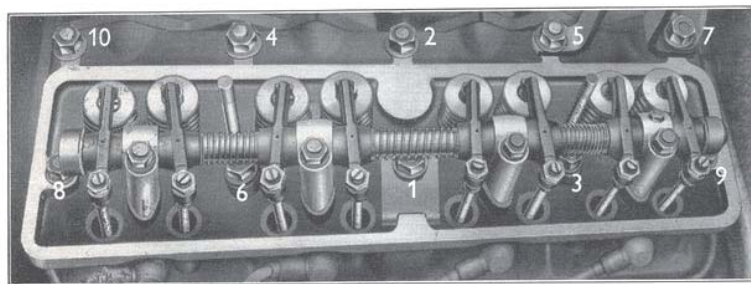

Fig. 5.
3. Check the tightness of the cylinder head nuts with a torque spanner, i.e. 60–65 lbs./ft. (8.29–8.97 kg.m) in the order shown in Fig. 5.